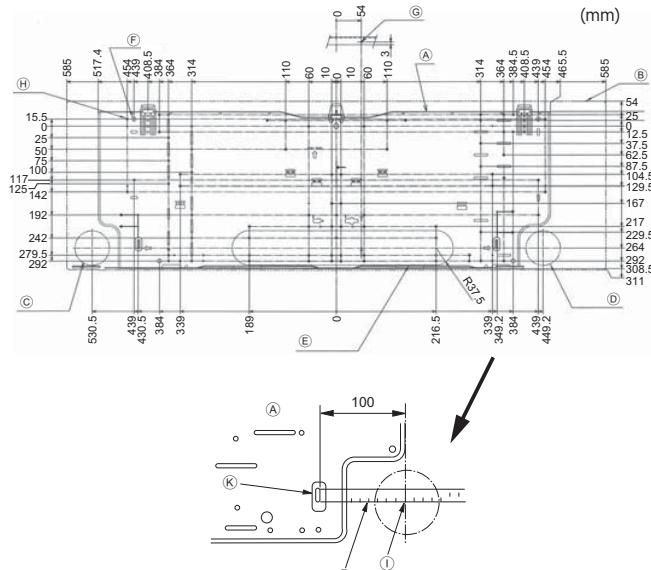
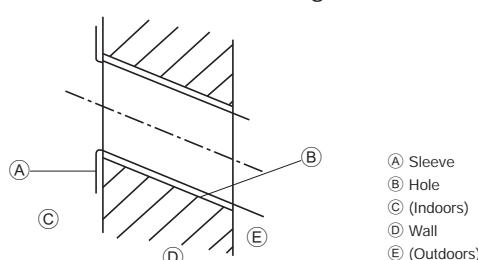

Fig. 3-2
Fig. 3-3
■ PKFY-P-VKM-E (Fig. 3-2)
- (A) Mount board ①
- (B) Indoor unit
- (C) Bottom left rear pipe hole ($\varnothing 75\text{-}80$)
- (D) Bottom right rear pipe hole ($\varnothing 75\text{-}80$)
- (E) Knockout hole for left rear hole (75 x 480)
- (F) Bolt hole (4- $\varnothing 9$ hole)
- (G) Center measurement hole (2.5 mm hole)
- (H) Tapping hole (75- $\varnothing 5.1$ hole)
- (I) Hole centre
- (J) Align the scale with the line.
- (K) Insert scale.
3.2.2. Drilling the piping hole (Fig. 3-3)